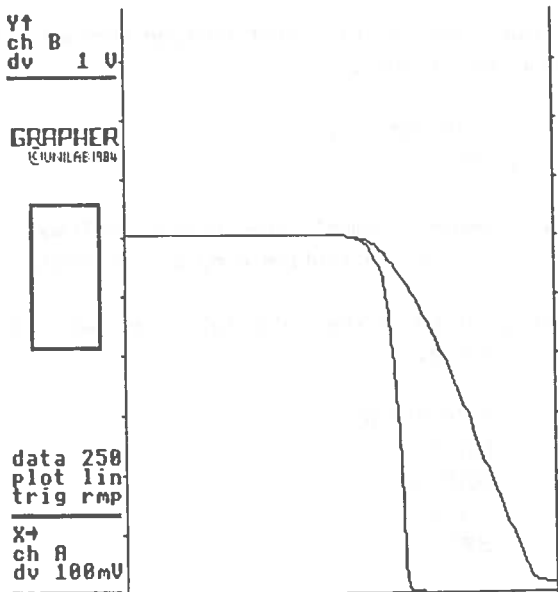

Fig.16
2. **Single analogue output port** giving 0-2.55 V latched output. The voltage output from this port may be ramped and, for example, the output characteristics of transistors monitored through an analogue input port (Fig.16). Some amplification is required for applications drawing more than 1 mA. If any current significantly greater than this is drawn, the voltage output will not be as specified by the software.
Fig.16 shows the switch-on characteristics (voltage across collector and emitter) of a transistor as the voltage across the base and emitter is ramped up. A digital output can also be programmed to provide the on/off pulse train to 'step' stepper motors.